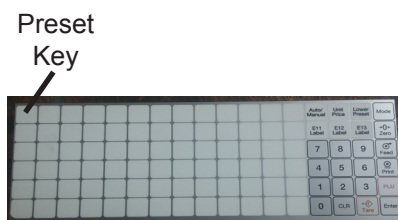

Figure 13-2
**NOTE: Make sure to mark the selected preset key with the PLU name on the Operating Keysheet. See Figure 13-2.**